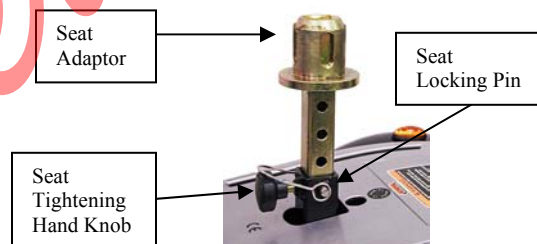
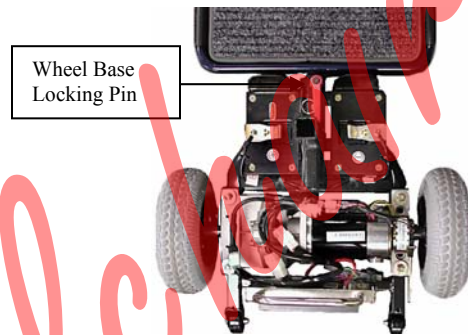

Figure 8
Figure 11
Seat Removal (Fig. 8)
Seat Height Adjustment (Fig. 8)
Scooter Length Adjustment (For Scootie & Sunrunner S) (Fig. 11)
The wheel base can be lengthened or shortened depending on its existing settings. The standard length of the scooter can be extended up to 3 inches. To adjust the wheelbase, remove the seat and the chassis cover complete with integral batteries. Remove the locking pin located at the front of the seat post (Fig. 8). Unscrew the red hand lever in front of the pin by turning counter-clockwise. Loosen the clips that secure the wires along the chassis. Slide the inner front section until the location holes become aligned. Insert the locking pin and tighten the red hand lever, insuring when fully secured, the lever is facing the seat post as shown in Fig. 11. Replace the chassis cover with the integral batteries then replace the seat.
3. Remove the locking pin and separate the rear drive unit (Fig. 11).